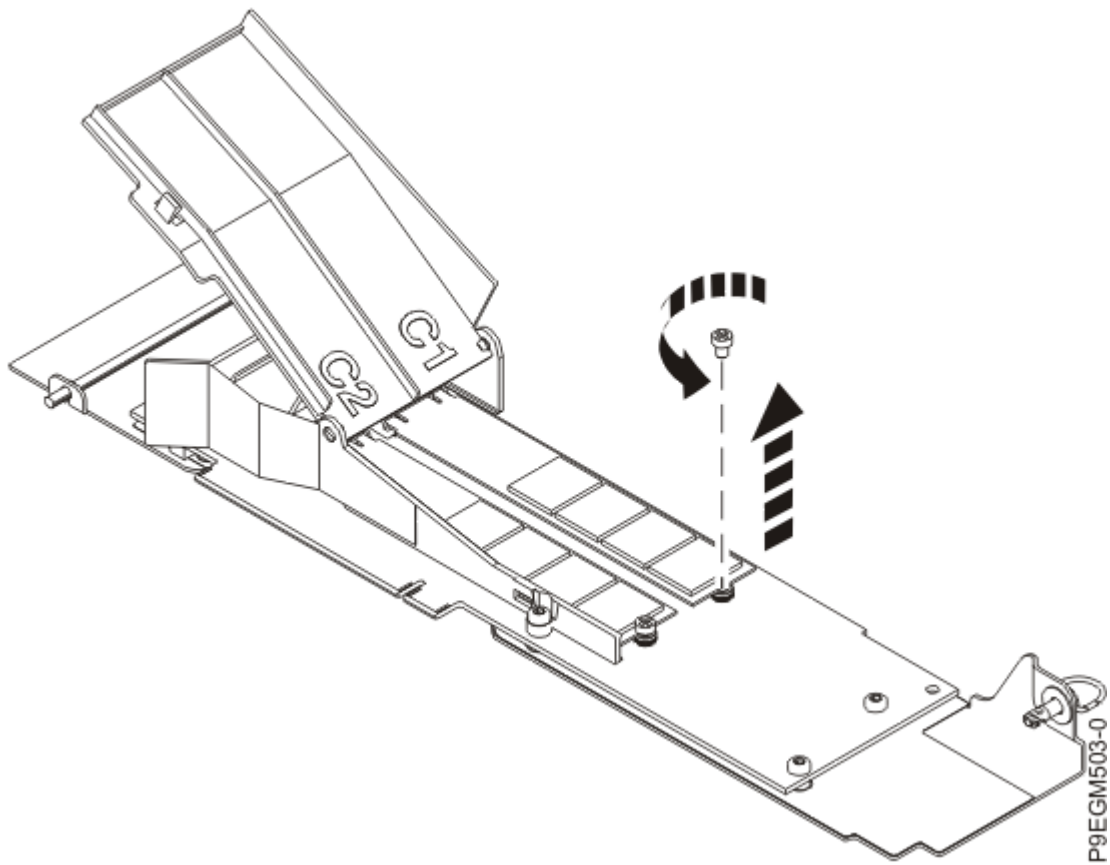

Figure 55. Unscrewing the NVMe M.2 carrier card flash module
- b) Using a Phillips screwdriver, unscrew the screw on the NVMe M.2 flash module. See Figure 55 on page 64.